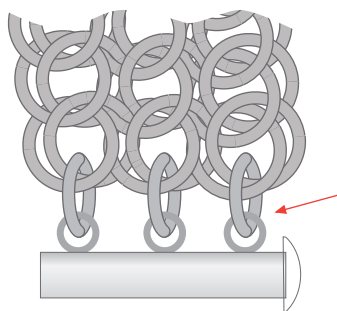

FIG. 14
**Half-Persian 3-in-1** Attaching a clasp to the Half-Persian 3-in-1 weave is straightforward. Use a multiple-strand clasp that has the same number of attachment loops as the number of rows on your piece. Attach the clasp by threading a jump ring through each loop of the clasp and the two corresponding jump rings at the end of each row of the weave (FIG. 14).